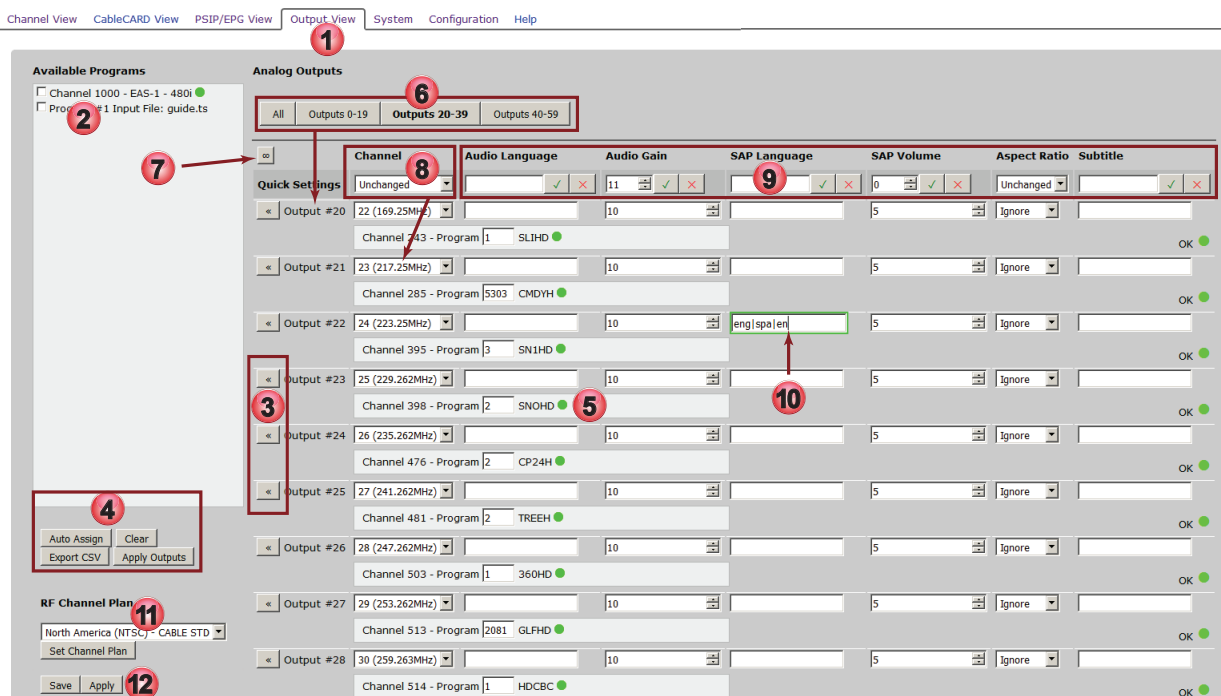

Figure 6-1: Output View Page
The Output View page, Figure 6-1, allows the bulk or individual assignment of selected programs to analog output channels. Before the Output View page can be configured, all required incoming programs must first be made available on the **Channel View** page. For guidance on selecting programs, see section “2.3 Add VCT Channels to the Channel Lineup” on page 2-2. Once programs have been selected for decryption or passthrough, they will appear in the **Available Programs** list.
1. Click the **Output View** tab to find this page, Figure 6-1.